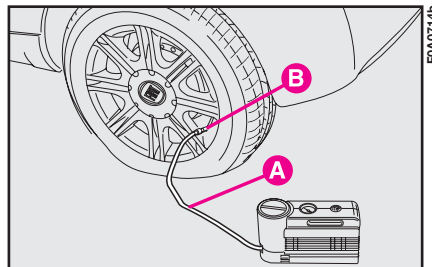

fig. 16c
– **Pull up the handbrake.** Loosen tyre inflation valve cap, take out the filler hose **A-fig. 16c** and screw the ring nut **B-fig. 16c** on the tyre valve;